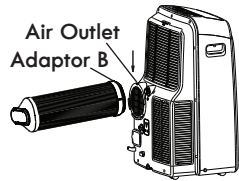

Fig.17
- 2. Align tabs of B adaptor with slots of air outlet and push down to secure in place (see Fig. 17).